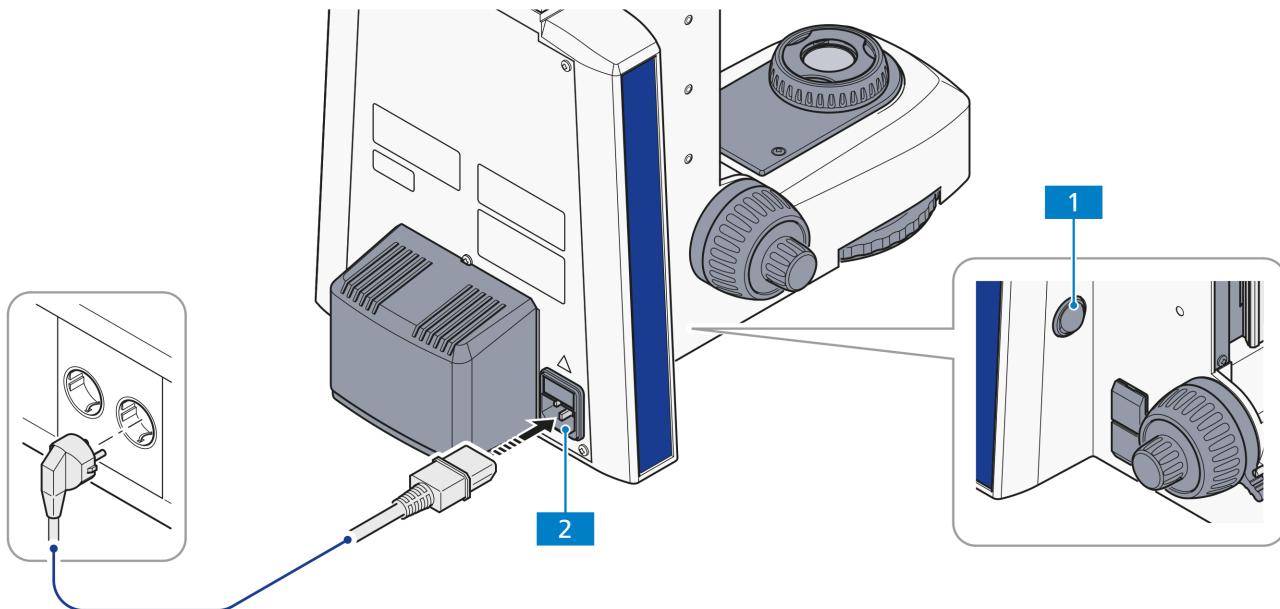

Fig. 3-60 Lower stand part for HAL 50 illumination (proceed similarly for LED illumination)
- Connect the microscope's power supply (Fig. 3-60/2) with its power cord to an electrical outlet.
- Switch the microscope on or off with the main switch (Fig. 3-60/1) on the left side of the stand.
- Turn the power switch (Fig. 3-60/1) of the microscope with the lower part of the stand for LED or HAL 50 illumination either on or off.